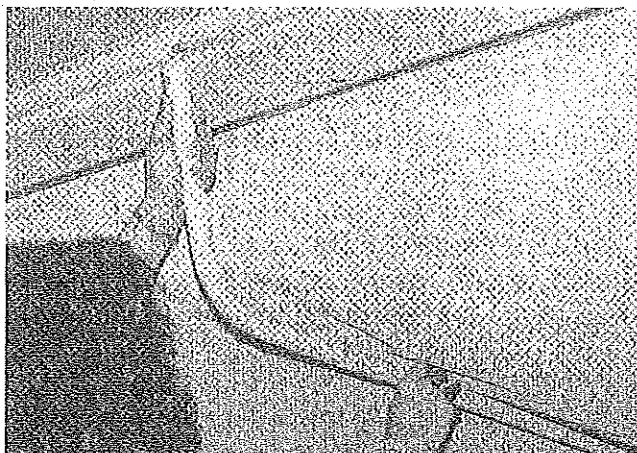

FIGURE 29
2. To completely support the tent enclosure over the bed (front and rear), attach the bed bow support by inserting the straight end into the bed bow. Insert the opposite end of the bed bow support into the metal roof retainer. See Figures 29 and 30.
12. Detach both front and rear bed bow supports from the roof retainer and from the bed bow. Lay the bed bow supports under each mattress. See Figure 29.